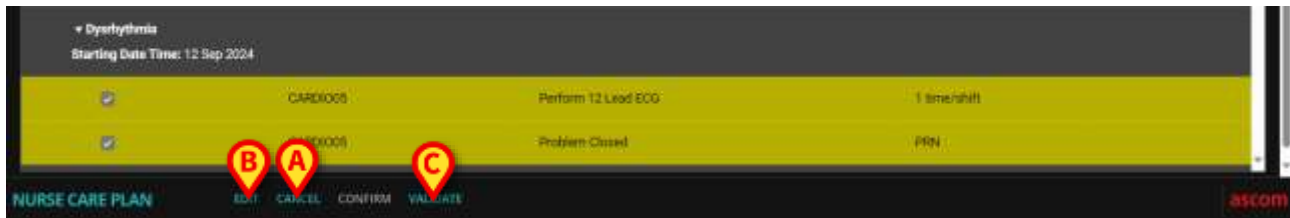

Fig 11
The screen changes in the following way (Fig 11):
The changes are this way saved but they are not applied to the Active Plan until the new plan is validated. At this stage it is still possible to discard the changes made (**Cancel** button - Fig 11 A) or perform additional changes before validation (**Edit** button again - Fig 11 B).
- Click **Validate** (Fig 11 C).
- 7) Click **Validate** (Fig 11 C).